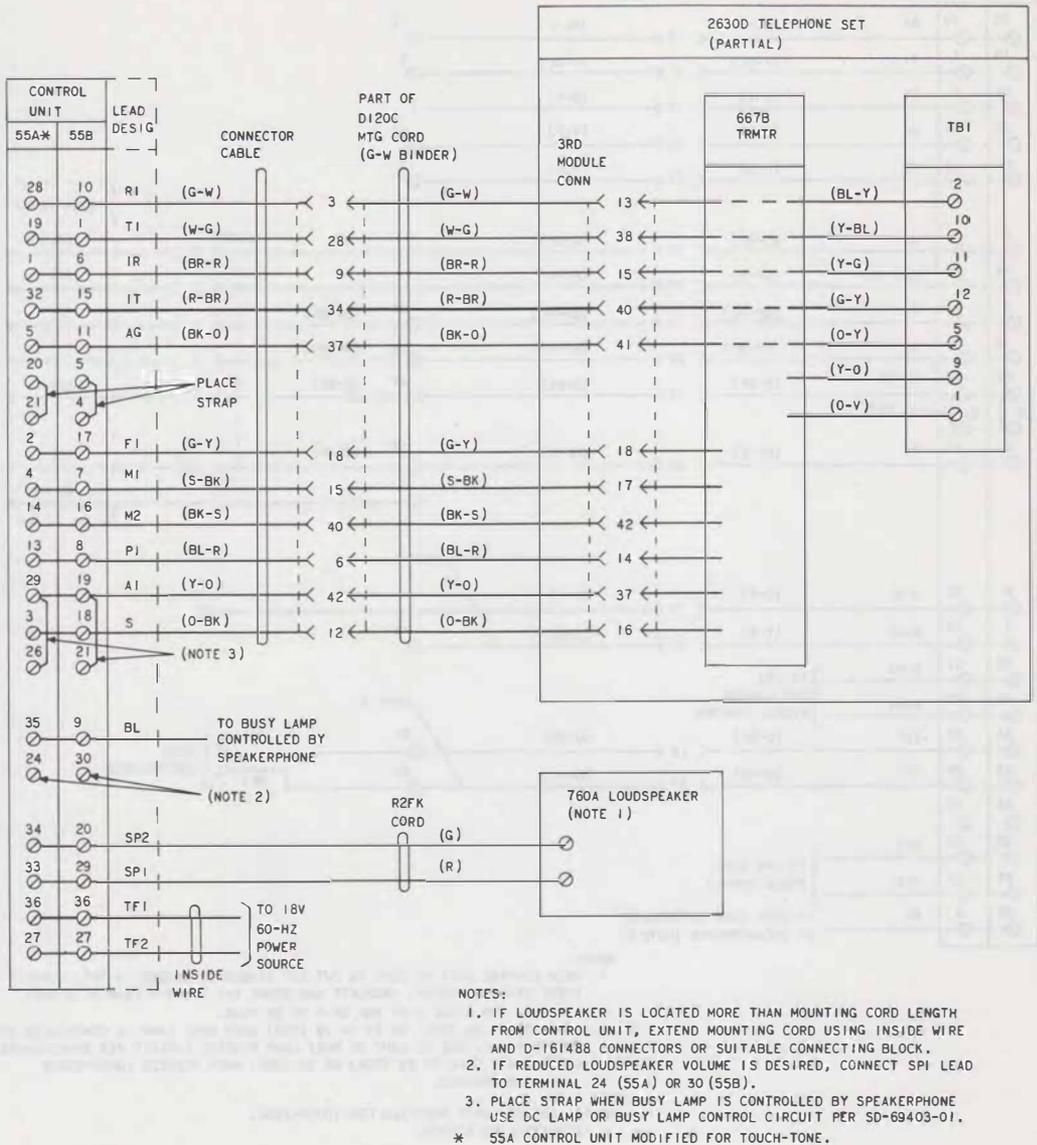

Fig. 1—2630D Telephone Set, Connections
- Remove Tables A and B. Information is included in Fig. 1.
- (c) Connect spade-tipped leads of transmitter as shown in Fig. 1.